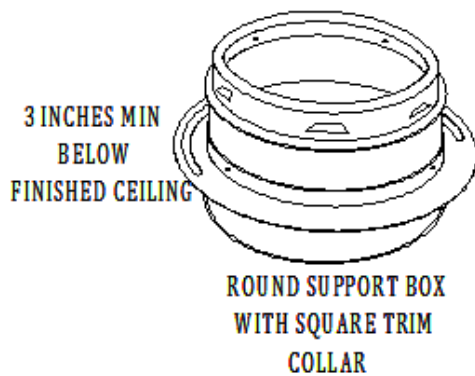
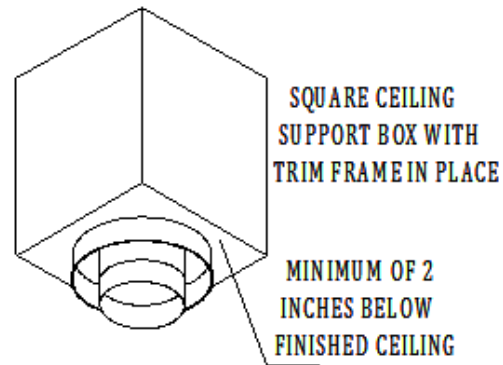

Fig.5
Fig.6
**3. Install Support:** For installation into a flat ceiling, you may use either the Round Support Box or the Square Ceiling Support Box. For the Square Ceiling Support Box, refer to the Square ceiling installation below. The Round Ceiling Support Box has the option of a square or round Trim Collar available (Fig 5). The bottom of the Round Support Box must extend at least 3 inches below the finished ceiling. Level the Support Box and secure it to the framing using at least three 8-penny nails per side (min. of 12 total ). Alternatively, you may use 1-1/2" #8 wood screws (min. of 12 total), instead of nails. Next, secure the Trim Collar (round or square) to the framing members using provided hardware (Fig 6).
For installation into a cathedral ceiling, you must use the Square Ceiling Support Box and the two-piece Trim. The bottom of the square portion of the Support Box must be a minimum of 2-inches lower (round portion is an additional 3 inches lower) than the finished ceiling at the lowest side of the penetration (Fig 5 & 6). Level the Support Box and secure it to the framing using at least three (3) 8-penny nails per side (minimum of 12 nails total), or a minimum of (3) #8, 1-1/ 2" wood screws. Adjust the overlapping "U-shaped" Trim pieces so they cover the Support Box, and secure them to the framing members using provided hardware
**3. Install Roof jack:** Slip the roof jack into the framed opening so the square portion projects at least 2 inches below the finished ceiling and rafters (bottom of round portion is 5" below), and extends above the ceiling to framing or decking materials that it can be nailed to. Level the roof jacket, and slit the corners to the roofline where they extend beyond it. Using 8-penny nails, or 1-1/2", #8 screws, per side (Fig 20). Screw the trim sections into the ceiling (Fig 6). **Roof jack must extend from the roof line 6 inches.**